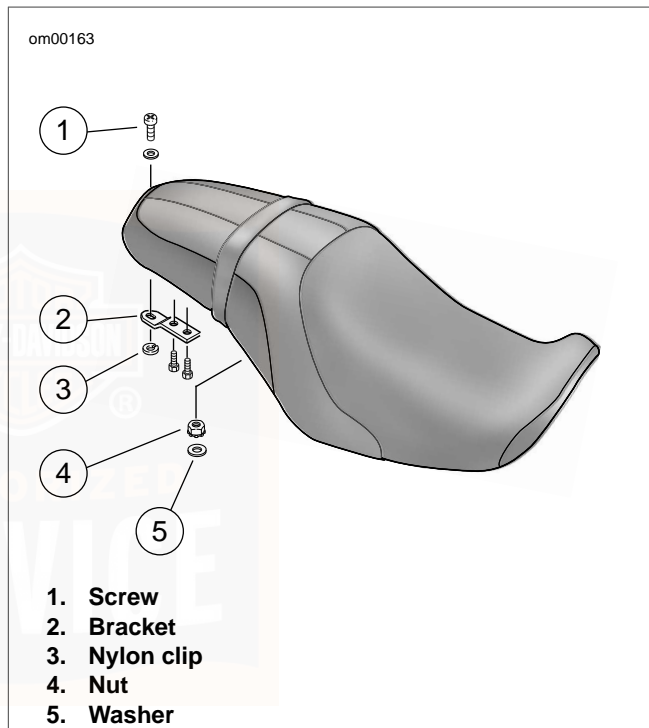

Figure 48. Seat: Dyna Models
1. See Figure 48. Remove screw and detach seat mounting bracket from top of rear fender.
3. See Figure 48. Push seat forward until rear fender seat retention nut is centered in hole of mounting bracket.